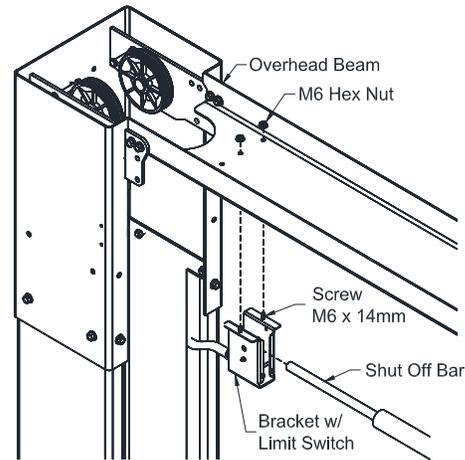

Fig. 7a – Overhead Limit Switch Power Side
- 19) Install Overhead Limit Switch to the Overhead Beam using the rear set of holes on the Power Side of the lift. Fig. 7a.